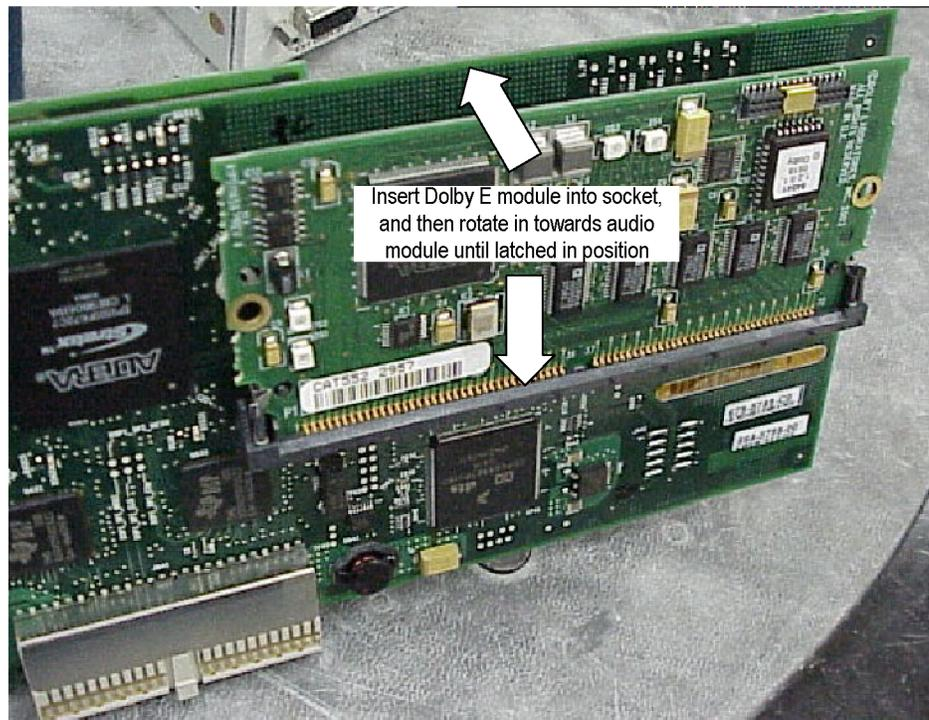

Figure 13: Installing the Dolby E module
4. **Option DDE only.** Install the Dolby E module supplied in this kit into J631 of the audio module. Fully insert the connector on the Dolby E module into the socket on the audio module, and then rotate the Dolby E module in towards the audio module until the Dolby E module latches into position. (See Figure 13.)